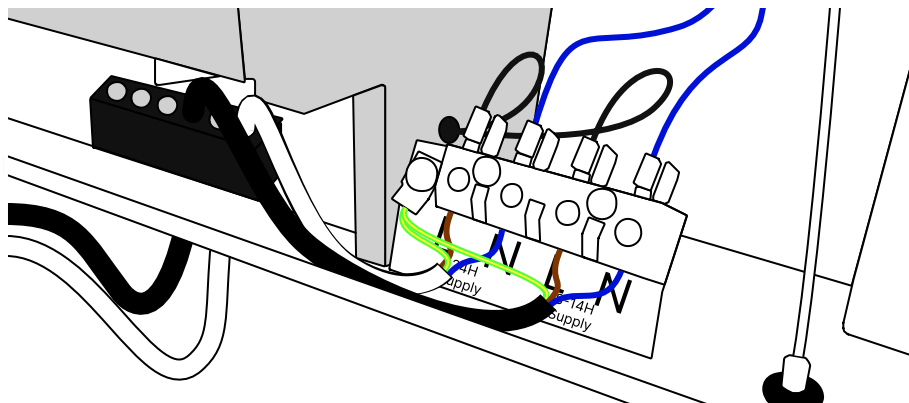

Figure 7 | Connecting the power supply (dual supply)
26. **For use with a dual supply**, ensure that the 2 red jumper cables are NOT installed. (**Figure 7**)